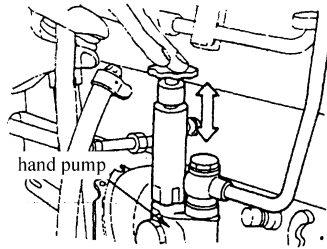

Fig.1.20
1.6.11 Exhaust of injection pump (Fig 1.20)